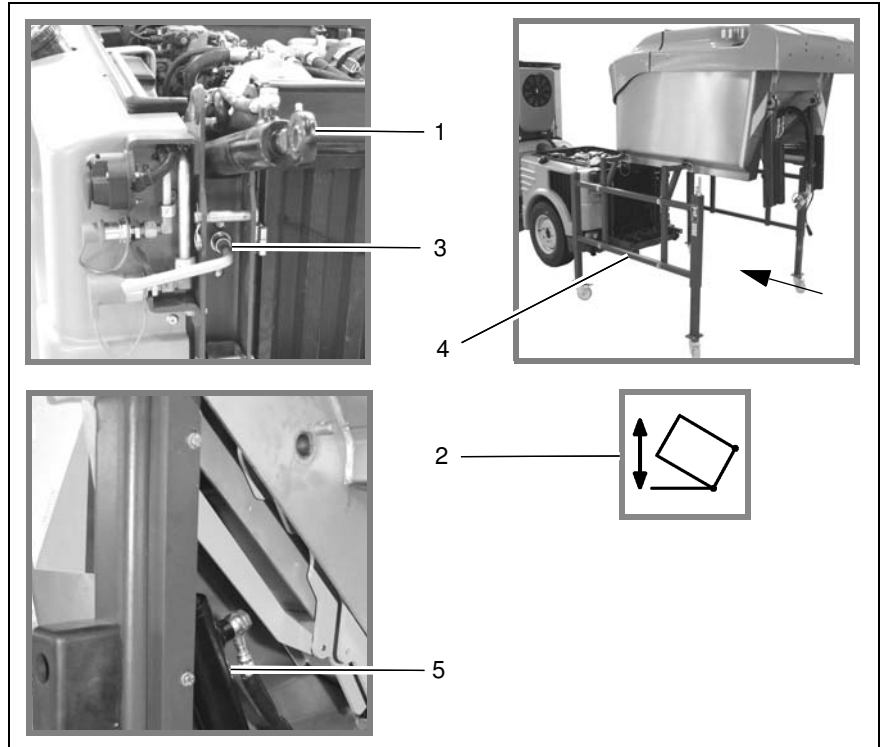

Fig.33
For the installation of the dirt hopper the storage stand (Fig. 33/1) is needed.
1. Fully retract the lifting cylinder (Fig. 33/1) by pressing the key (Fig. 33/2) and carefully fold backwards.
2. Loosen the attachment screws (Fig. 33/3) for support of the dirt hopper.
3. Push the dirt hopper with the storage stand (Fig. 33/4) over the basic vehicle.
4. Fold up the lifting cylinder (Fig. 33/5) and insert it into the u-shaped recesses in the dirt hopper.
17. Remove the storage stand (Fig. 33/4).